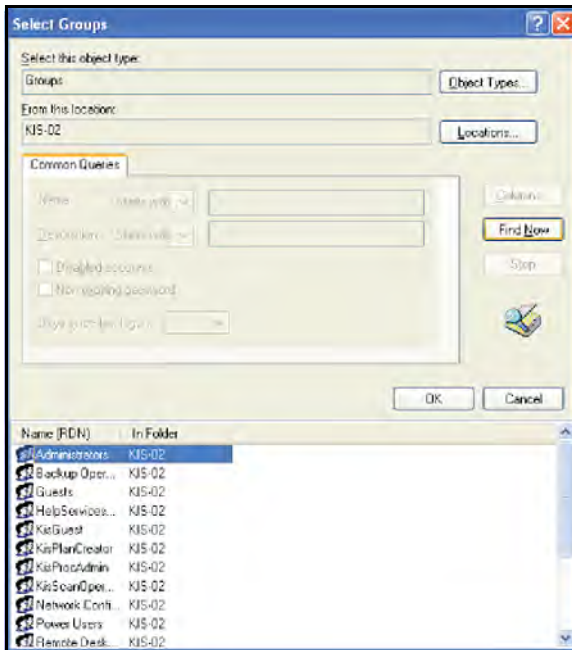

Figure 121: Select Groups with Group Listing
10. Click Find Now and the *Select Groups* window opens (see *Figure 121* below). Then, select the correct group for the user and click OK.